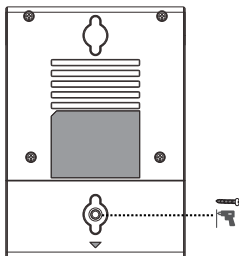

Figure 3
1. Close the back cover of the device after plugging in the cable, and punch the PA3*8mm Screw into the hole in the back cover (Figure 3)